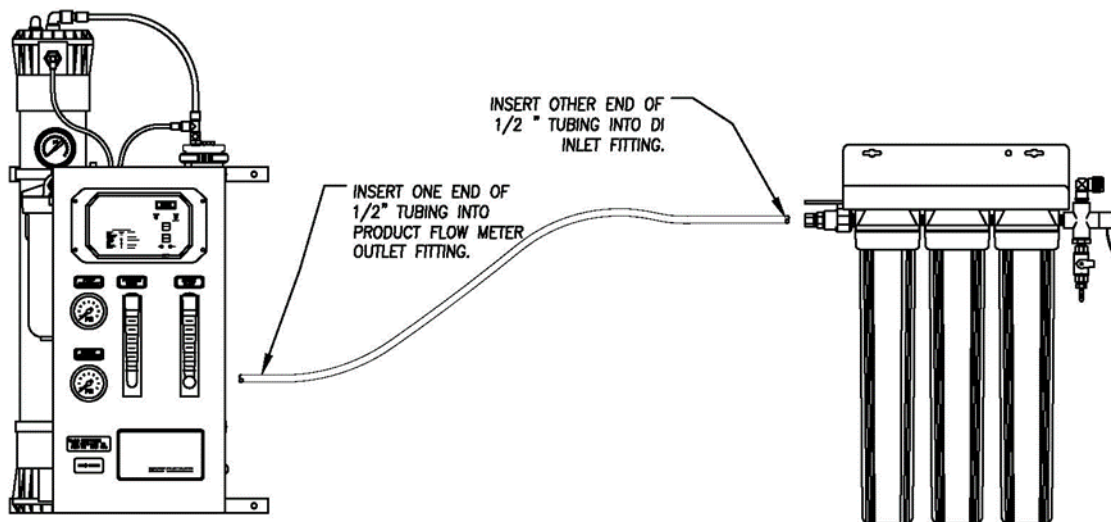

Figure 3
3. Connect tubing from the SRO product flow meter outlet to the Wall Mount DI inlet 1/2" tube connector on the ball valve (**Figure 3**).